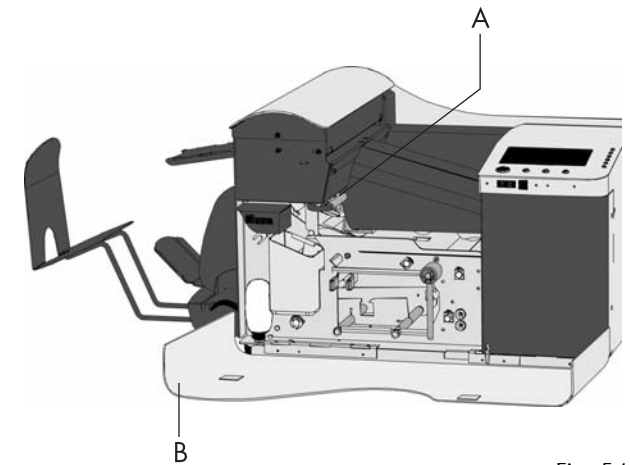

Fig. 54
- open the side cover B (fig. 54).
- lift the locking lever A (fig. 54) of the loc and pull the loc up into the vertical position.